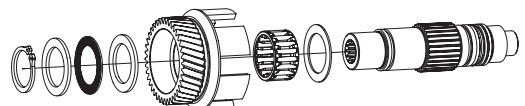

Figure 6 - Output Shaft Component's Removal
11. Shift to the front of the output shaft (9) and remove the snap ring (15) using snap ring pliers. Proceed to remove the washers (13), bearing (14), output gear (12), needle bearing (11), and washer (10). See Figure 6.